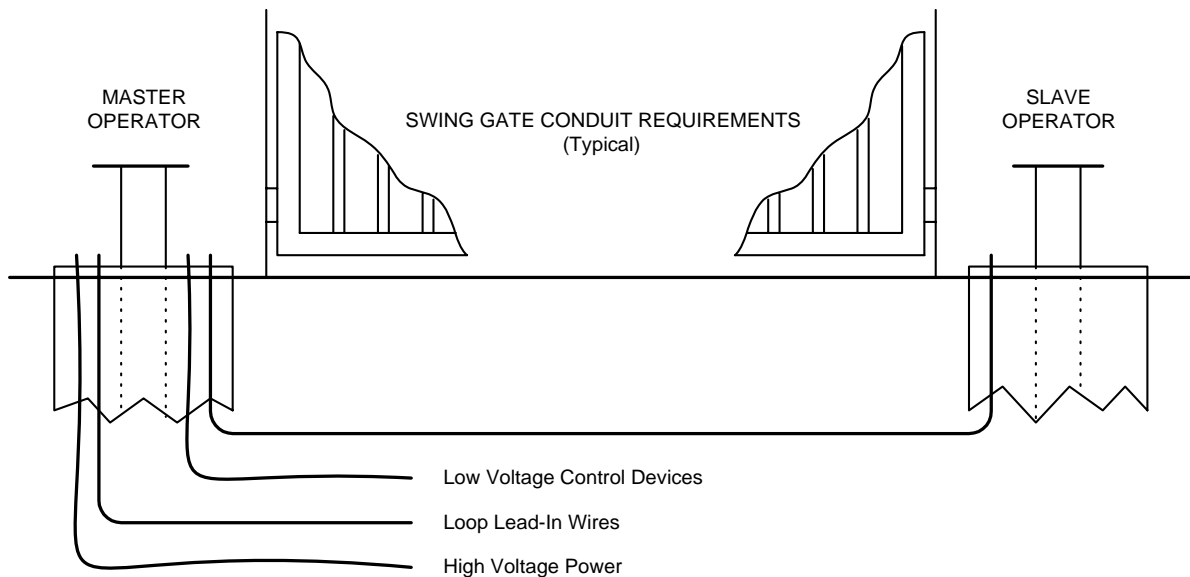

Figure 24
- The conduit requirements shown in figure 24 are for a typical swing gate operator installation (the slave operator is shown for those applications where a slave operator may be used). The conduit requirements for your application may vary from this depending on your specific needs.
- Connect optional control devices to the master operator terminal strip as shown in Figure 24. Be sure that all electrical connections are made in accordance with local electrical codes. Use 18 AWG wire for all low voltage wiring, maximum distance 3000 feet. Use a low voltage surge suppressor, DoorKing P/N 1878-010 if low voltage wire runs exceed 1000 feet. All inputs to the terminal strip must be NORMALLY OPEN.